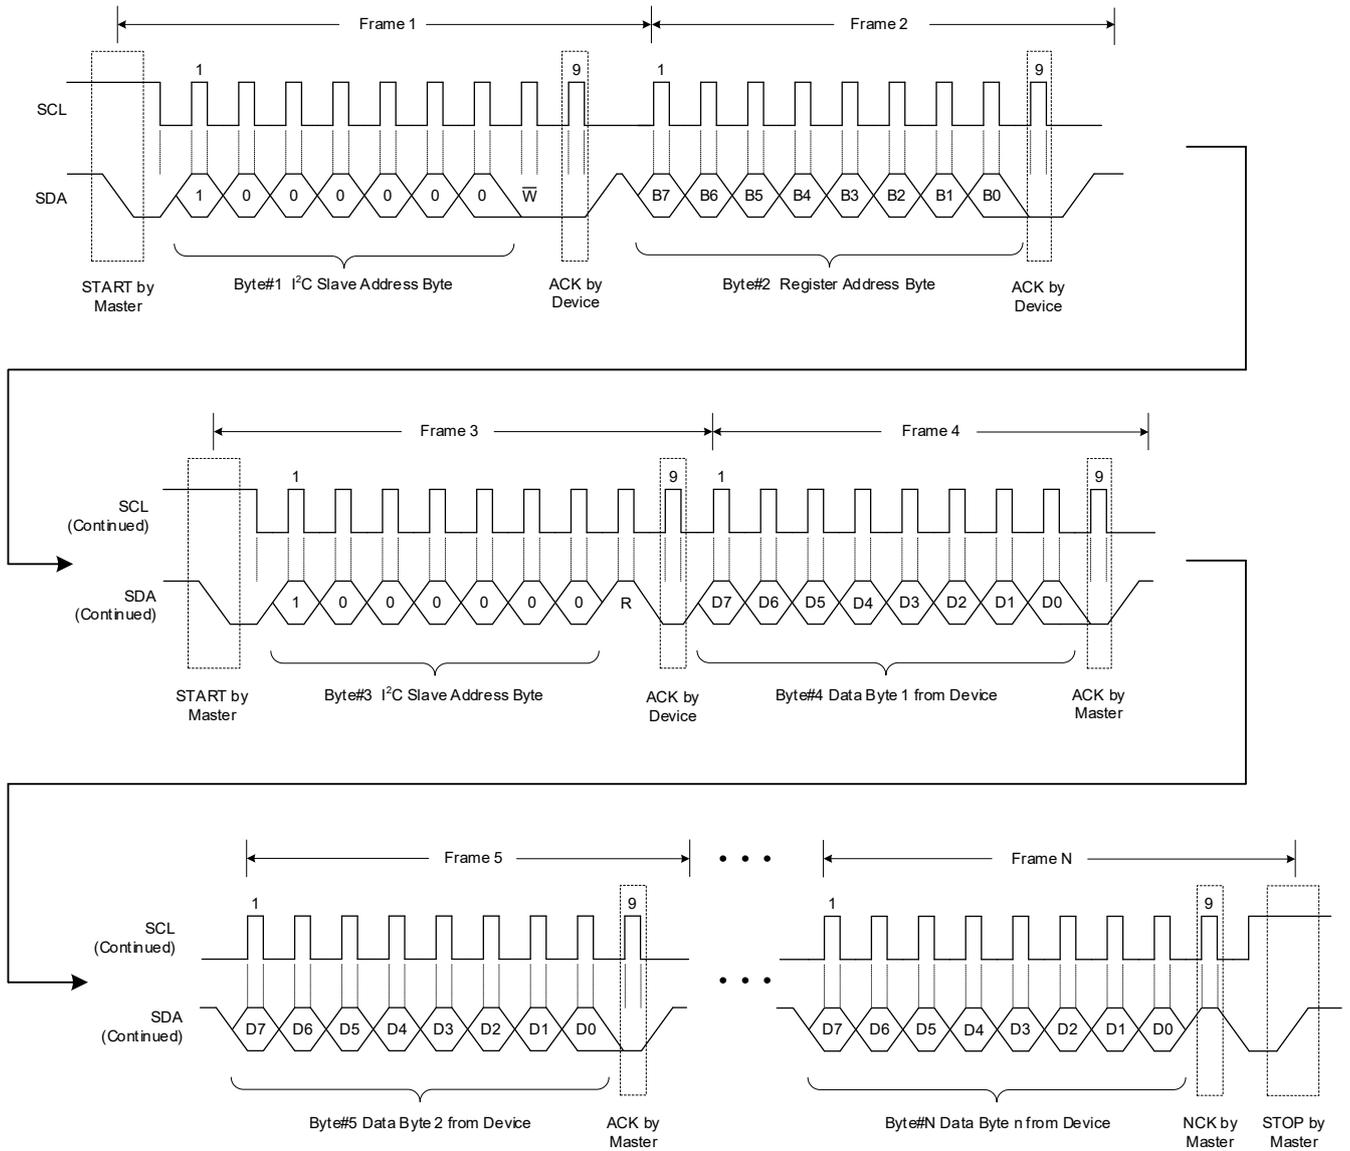

Figure 11. A Multi-Read Transaction
**READ:** If the master wants to read a single register (Figure 11), it sends a new START condition along with device address with R/W bit = 1. After ACK is received, master reads the SDA line to receive the content of the register. Master replies with NCK to inform slave that no more data is needed (single read) or it can send an ACK to request for sending the next register content (multi-read). This can continue until an NCK is sent by master. A STOP must be sent by master in any case to end the transaction.